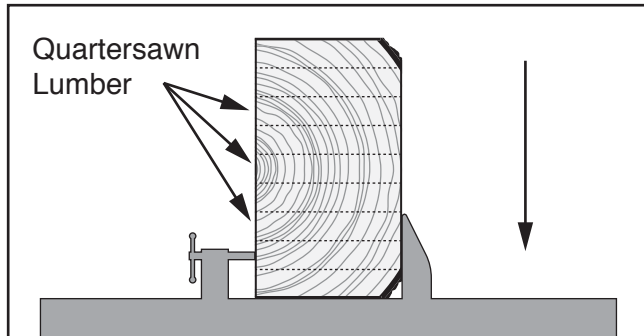

Figure 52. Quartersawn lumber to be cut from cant.
12. Cut from top to bottom until cant is fully used (see **Figure 52**). Adjust log supports and log clamp throughout process to keep cant secured and supports below blade.